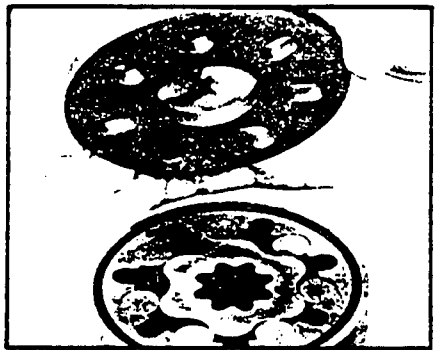

Figure 49
17. Place wearplate (7) either side up, onto the rotor set (6) and align wearplate bolt holes with the stator (6B) bolt slots. SEE FIGURE 49.